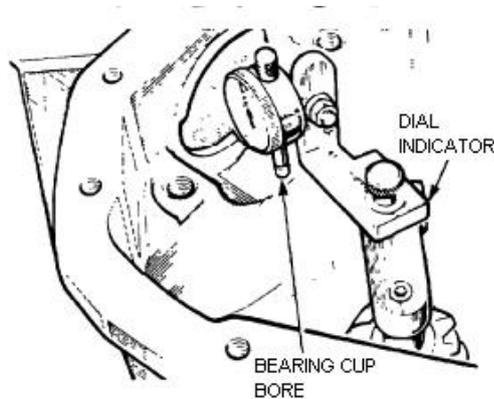

Figure 222 Measuring the Pinion Shaft Height
- j. Position the magnetized base of the dial indicator on the pinion shaft end face and rest the stylus on the lowest point of one differential bearing cup bore (Figure 222). Note the dial indicator deviation from the zero setting.